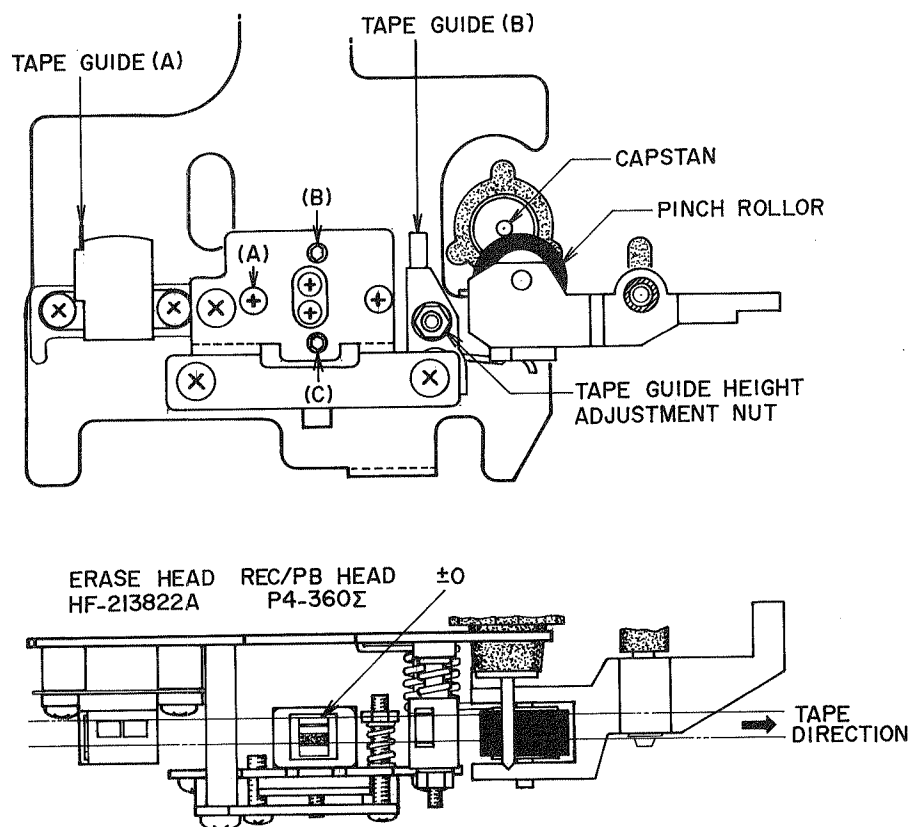

Fig. 8 Head Adjustments
## 1. TAPE GUIDE HEIGHT ADJUSTMENT (Refer to Figs. 8,9)
- 2) At playback mode, using the Tape guide (A) shown in Fig. 8 as standard for height, adjust tape guide (B) height with tape guide height adjustment nut so that the tape runs smoothly and does not catch on the tape guides.
## 2. RECORDING/PLAYBACK HEAD HEIGHT ADJUSTMENT (Refer to Figs. 8,9)
- 2) As shown in Fig. 8, adjust head height with screws (A),(B) and (C) until the upper edge of the tape is the same height as the upper edge of the left channel REC/PB head core.
- 3) After completing adjustment step 2, playback the Head Height Adjustment tape (4 track, 1,000 Hz) and adjust Head Height Adjustment screws (A),(B),(C) to put the output power from both channels to maximum.
## 3. RECORDING/PLAYBACK HEAD AZIMUTH ALIGNMENT ADJUSTMENT (Refer to Fig. 8)
- 1) Playback a 10 kHz pre-recorded cassette azimuth alignment test tape and adjust screw (A) shown in Fig. 8 to obtain maximum output on both channels.